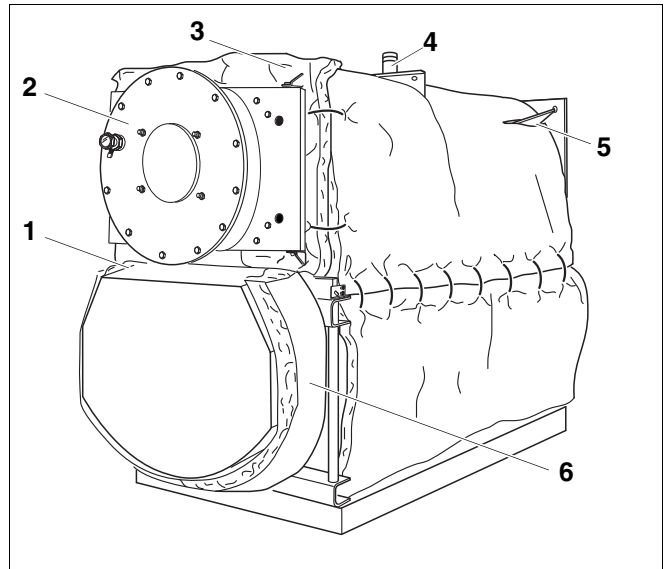
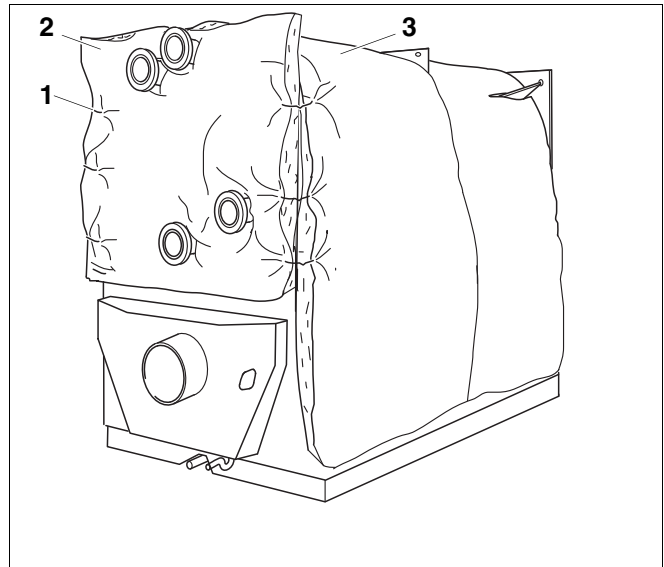

Fig. 13 Thermal insulation on the burner door and return bonnet
Fig. 14 Rear panel lagging
- Pay attention to the cut-outs for the low water indicator and the connecting plates (Fig. 13, [4] + [5], page 21)!
- Lay burner door lagging, with round cut-out [3] and the wide edge facing upwards, against the boiler block front panel (wide edge upwards), and using 4 clips (2 left, 2 right), fasten to the lagging wrapped round the boiler (Fig. 14, [3]).
- Insert lagging for burner door (Fig. 13, [3], page 21) and rear panel (Fig. 14, [2], page 21) into the upper folded edges on the front and rear connection plates.